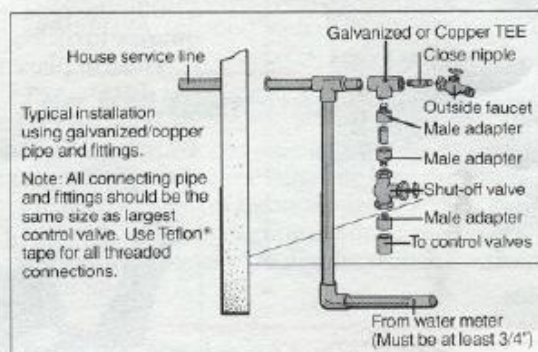

Figure 13: In nonfreezing areas you can avoid cutting the main line by attaching your system to the outside faucet connection.
3. Re-attach the faucet with a close nipple as shown in Figure 13.